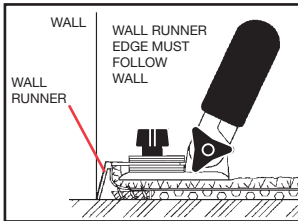

Figure 11
2. Insert the trimmer into the starter cut. Keep the bottom of the trimmer flat against the face of the carpet, and the bottom edge of the wall runner at the junction of the floor and the wall (Figure 11).